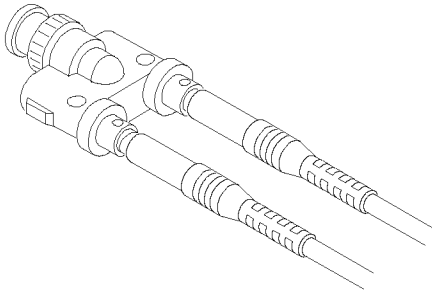

Figure 7: Slide probe leads onto the binding posts
10. Attach the differential probe input leads (without attachment accessories) by sliding the banana plug of the leads onto the binding posts of the Modified BNC adapter. (See Figure 7.)
6. Attach the differential probe input leads (without attachment accessories) by sliding the banana plug of the leads onto the binding posts metal sleeves on the modified BNC adapter. (See Figure 7 on page 25.) Enable the output of the generator.